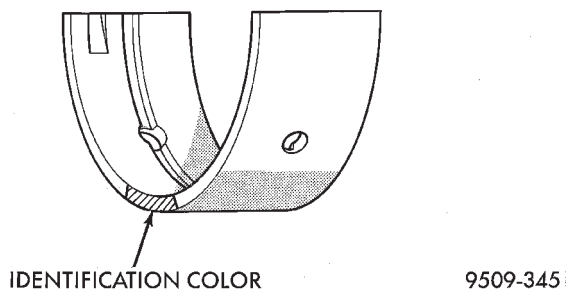

Fig. 18 Bearing Identification
(1) Measure the crankshaft journal diameter and confirm its classification from the Crankshaft Size Classification Chart. In the case of a bearing supplied as a service part, its identification color is painted at the position show in (Fig. 18).